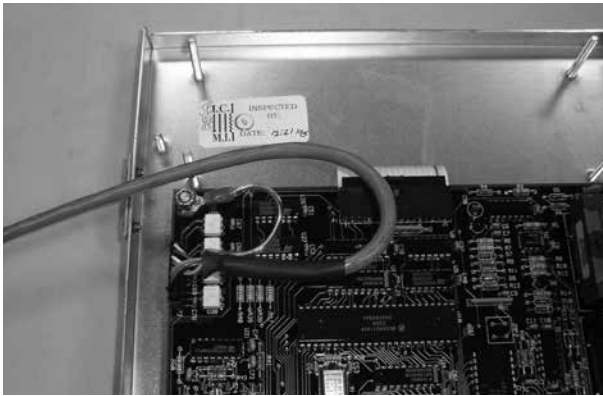

Figure 16. Connecting interface cable to CL-5 control panel
- B. For the CL-5 control panel: Remove the metal shield from the back of the control by removing 4 nuts and wiring harness cable stay. Push the interface cable terminal connector into the accessory jack located at the top right of the printed circuit board. See Figure 16.
- B. For the CL-5, connect the lead under the nut adjacent to the accessory jack. See Figure 16. Install the metal shield onto the back of the control panel, routing the interface cable through the slot in the side of the shield as it is installed. See Figure 17.